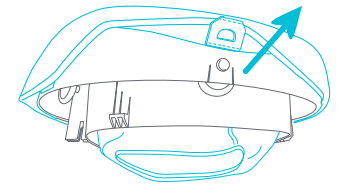

Fig. 12a
- 12 • To remove the seat fabric for maintenance, pull out all the plates from the tab on the seat base (Fig. 12a).